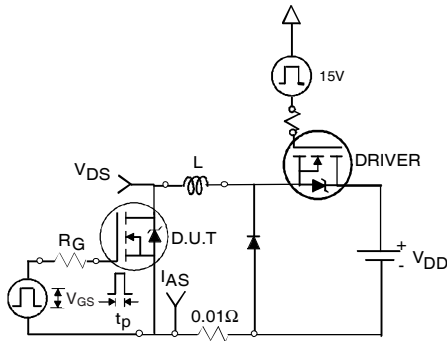

Fig 12a. Unclamped Inductive Test Circuit
- ③ $I_{SD} \leq 75A$, $di/dt \leq 340A/\mu s$, $V_{DD} \leq V_{(BR)DSS}$, $T_J \leq 175^\circ\text{C}$.
- ④ Pulse width $\leq 1.0ms$; duty cycle $\leq 2\%$.
- ⑤ $C_{oss\ eff.}$ is a fixed capacitance that gives the same charging time as C_{oss} while V_{DS} is rising from 0 to 80% V_{DSS} .
- ⑥ Limited by T_{Jmax} , see Fig.12a, 12b, 15, 16 for typical repetitive avalanche performance.
- ⑦ This value determined from sample failure population. 100% tested to this value in production.
- ⑧ This is applied to D²Pak, when mounted on 1" square PCB (FR-4 or G-10 Material). For recommended footprint and soldering techniques refer to application note #AN-994.
- ⑨ R_θ is measured at T_J of approximately 90°C .
- ⑩ TO-220 device will have an R_{th} of 0.45°C/W .
3. Equation below based on circuit and waveforms shown in Figures 12a, 12b.